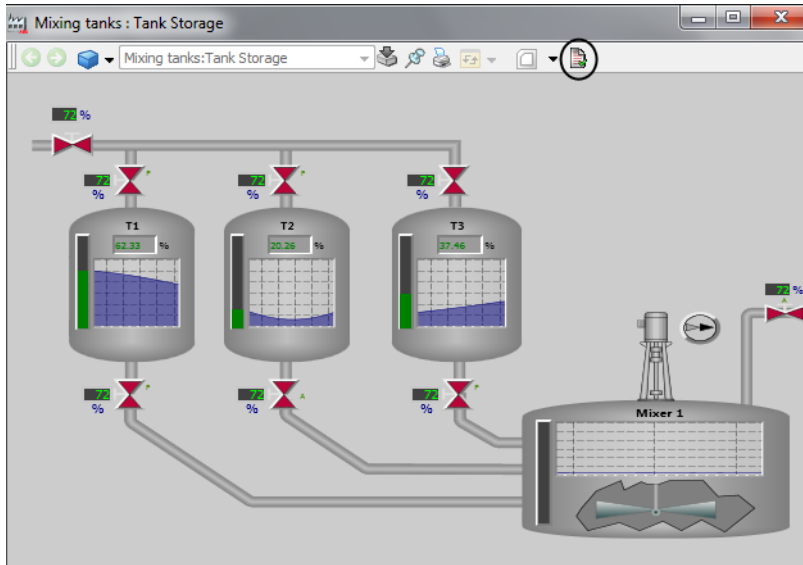

Figure 11. Display bar of a graphic aspect
1. Click  on the display bar of the graphic aspect preview as shown in Figure 11.